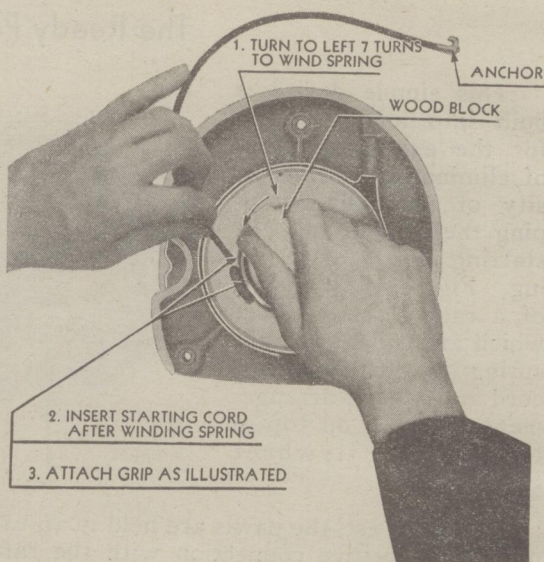

Fig. 22
4. Cut a small piece of wood to fit in ratchet as shown in Fig. 22.
5. Turn in anti-clockwise direction (right to left) 7 turns, using marker as indicated. Fig. 22. (Be sure to turn right to left—to do otherwise will damage the recoil spring.)
6. Insert starting cord as illustrated. Fig. 22.